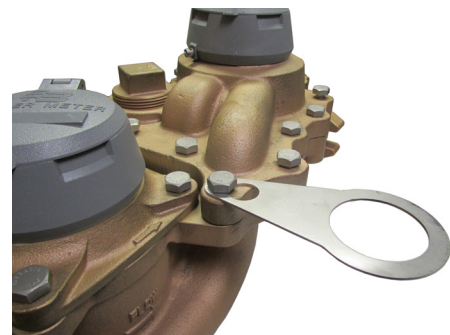

Figure 39: Bracket attached with bolt
**NOTE:** For visual clarity, the photo in Figure 39 shows the bracket without the endpoint attached.